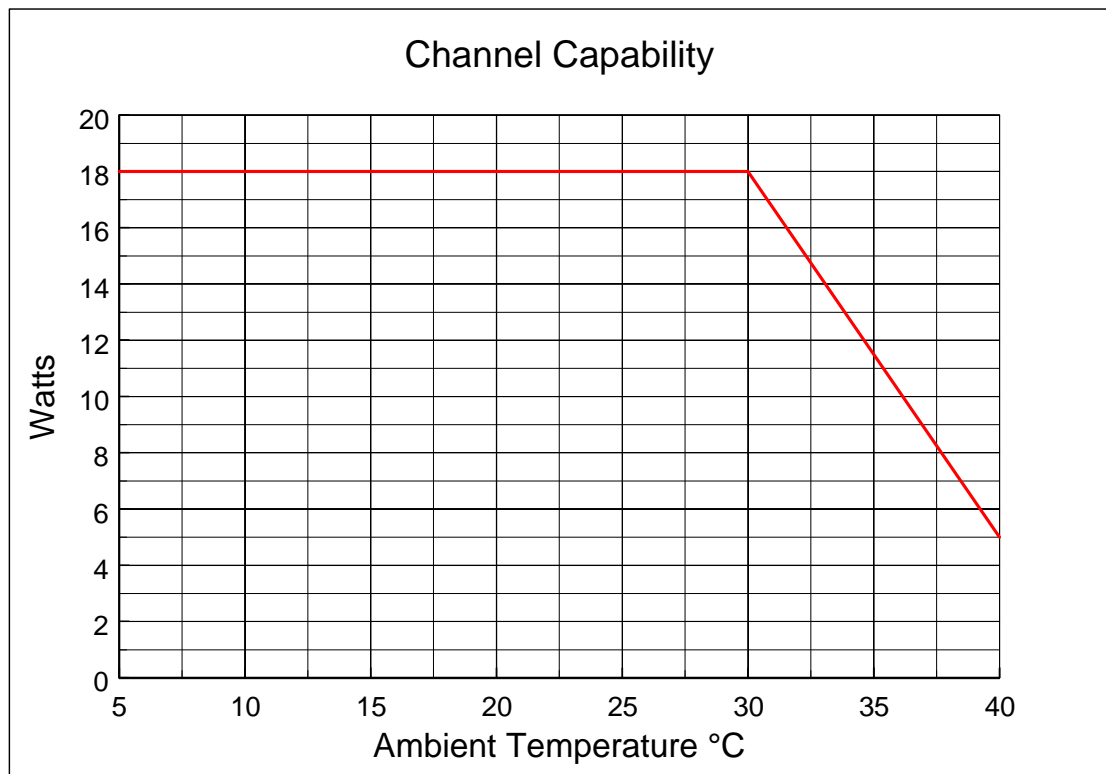

Figure 5 Channel Performance
- 3.3.5 From the performance graph in Figure 5 determine the maximum ambient temperature allowed for this performance.